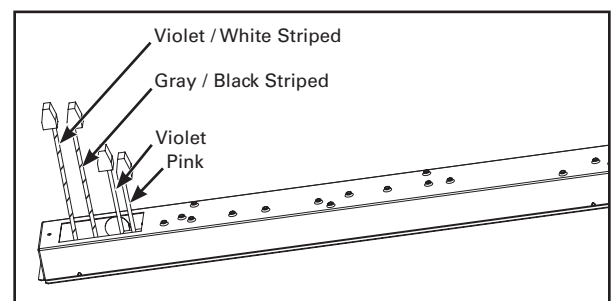

Figure 2.
2. Locate four control wires with push nuts (violet, pink, violet / white stripe, gray / black stripe). (Figure 2.)
3. Use the supplied push nuts to connect the control input 0-10V dimming violet and gray wires to the corresponding fixture violet and gray wires. (Figure 2.)
4. Use the supplied push nuts to connect the control input 0-10V CCT wires to the corresponding fixture violet/white stripe and gray/black stripe wires. (Figure 2.)